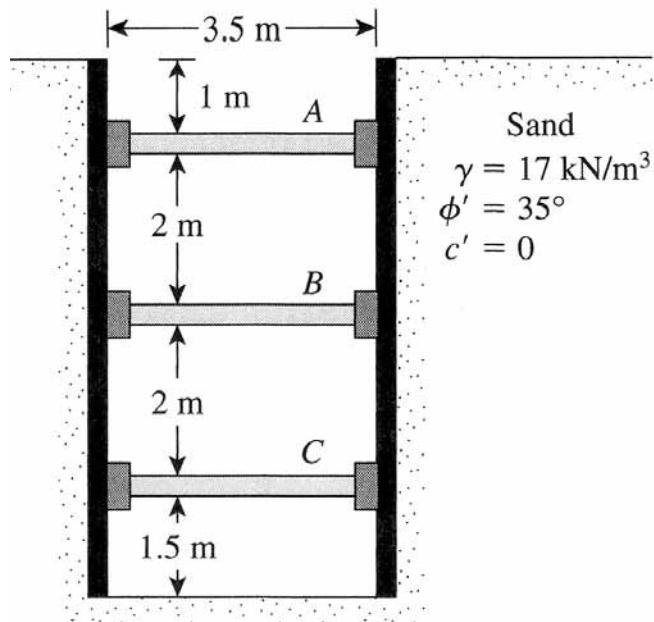

Figure 3
d) For the braced cut shown ($s = 3 \text{ m}$) in Figure 3,